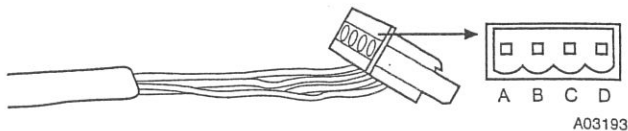

Fig. 10 — Wire ABCD Connector
**Note:** It is not mandatory that the above color code be used, but each ABCD connection in the system MUST be wired consistently. A separate ABCD Connector comes inside packaging and should be used when connecting to furnace (or fan coil). Ensure connector is inserted properly into circuit board. (See Fig. 10)